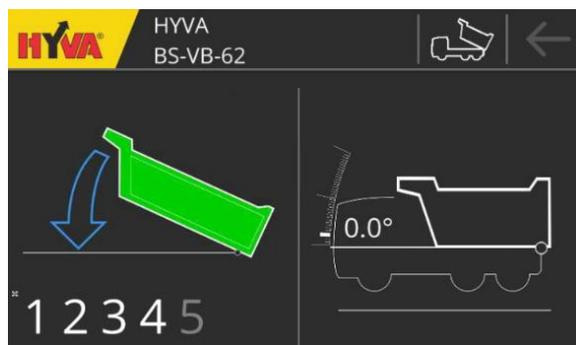

FIGURE 15 PAYLOAD CALIBRATION - SYNCHRONIZING
Step 5 (Figure 15): Wait till synchronizing is complete.